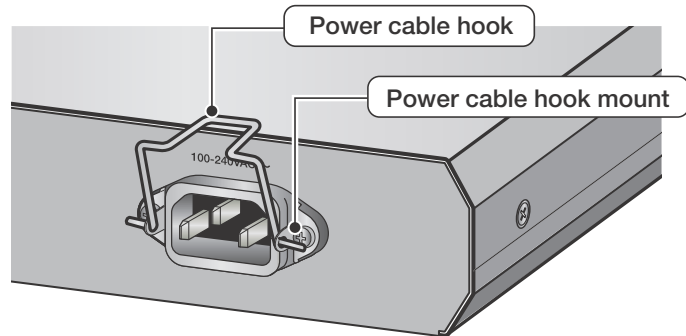

Figure 32. Lifting the AC Power Cable Hook on an AT-x210-16GT Switch
1. Plug the power cord into the AC power connector, as shown in Figure 32 on the back of an AT-x210-16GT Switch.